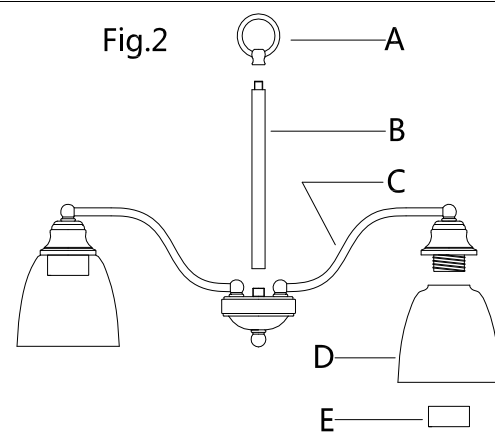

Fig. 2.1
2. Attach the loop (A) and tube(B) to the center coupling of fixture body (C), by turning it clockwise until tight.
3. Raise the glass shade(D) to the lamp holder, then lock it securely with check ring(E).
**\*\* Please pause and refer to Fig. 2.1.**